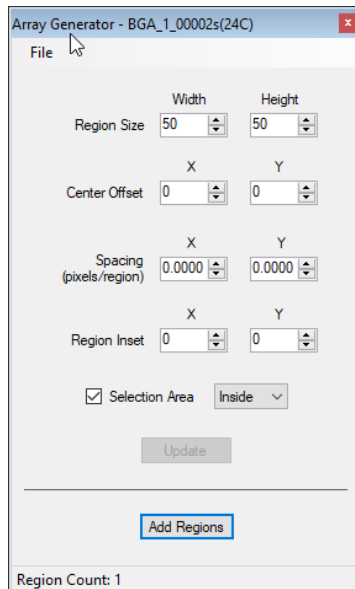

Figure 3.10 Mask Array Parameters
2. By default, a grid of mask regions appear on the phase image. Also, a box with various array parameter options appear (**Figure 3.10**). The **height** and **width** refer to the individual dimensions of a single mask region. The **center offset** is the distance of the center of the full array from the center of the image. The **spacing** controls how much space exists between each mask region. The **inset** refers to how much of the image is covered by the array (a larger inset reduces the total array size). Each option affects all ROIs in the same way.